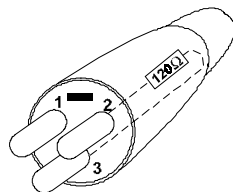

Figure 2-6. Data cable terminator
3. Solder a 120 ohm resistor, minimum of 1/4 watt, between pins 2 and 3 (see Figure 2-6).